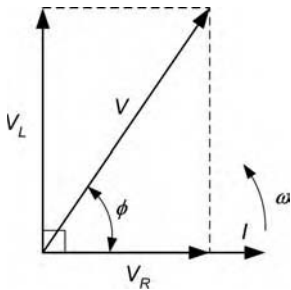

Figure 5.156 Phasor diagram for the series R - L circuit.
We can illustrate this relationship using the phasor diagram shown in Figure 5.156. Note that we have used current as the reference phasor in this series circuit for the simple reason that the same current flows through each component (recall that earlier we used the applied voltage as the reference).
From Figure 5.156 you should note that the supply voltage (V) is simply the result of adding the two voltage phasors, V_R and V_L . Furthermore, the angle between the supply voltage (V) and supply current (I) is the phase angle, ϕ .